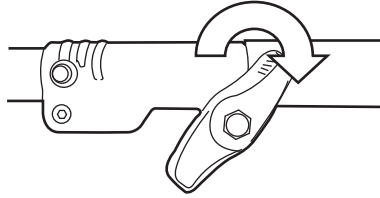

Fig. 2c
4. Secure the connection by tightening the locking knob (A14) clockwise. (See Fig. 2c)